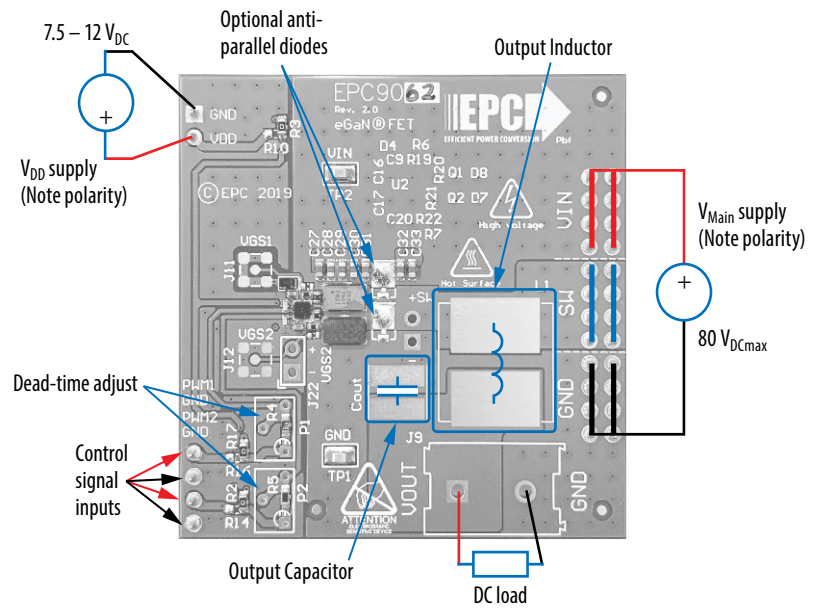
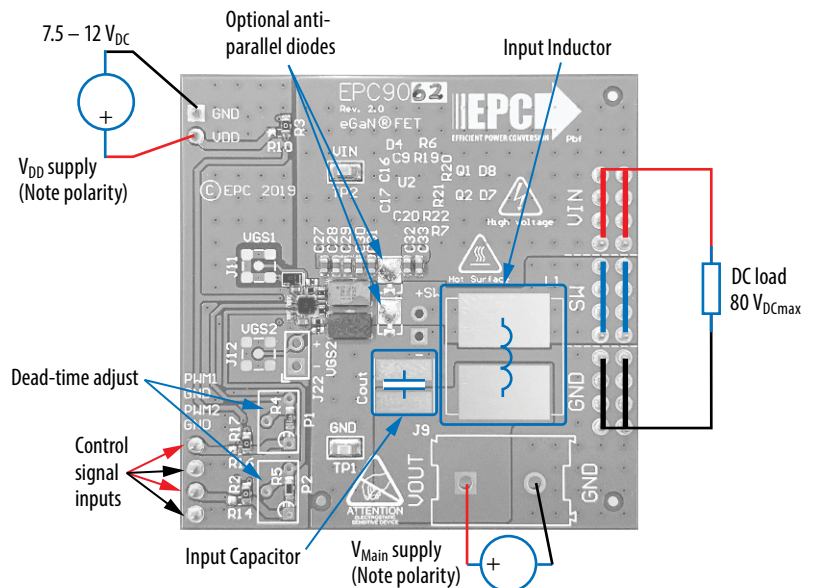

Figure 2: Buck configuration
Figure 3: Boost configuration
The half bridge development board EPC9062 is easy to set up as buck or boost converter. Refer to figure 2 for buck converter configuration and measurement setup, and figure 3 for boost converter setup, and follow the procedure below:
2. With power off, connect the switch node (SW) of the half bridge (J3, J4) to your circuit as required (half bridge configuration). Or use the provided pads for inductor (L_1) and output capacitors (C_{out}), as shown in figure 2.
1. The inductor (L_1) and input capacitors (labeled as C_{out}) can either be soldered onto the board, as shown in figure 3, or provided off board. Anti-parallel diodes can also be installed using the additional pads on the right side of the EPC2032 FETs.